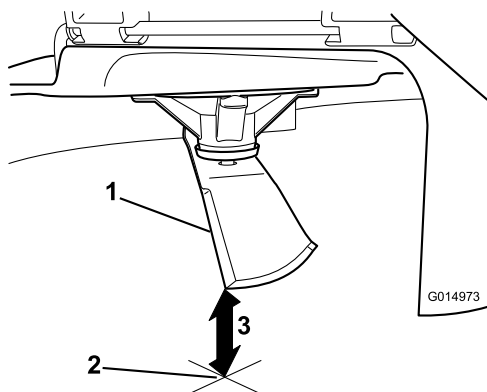

Figure 74
3. Measure from the tip of the blade to the flat surface (Figure 74).